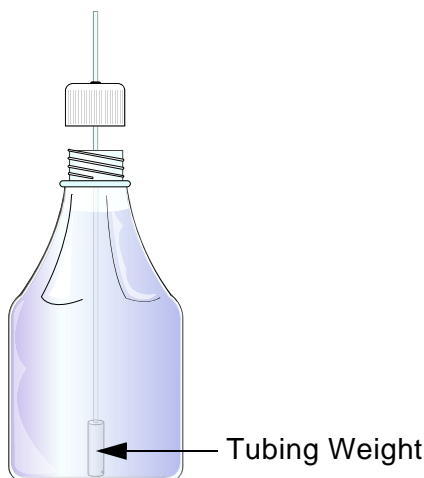

Figure B-4. Tubing Weight in Reservoir
8. Cap the bottle and adjust the length of tubing until the weight touches the bottom surface of the reservoir (see Figure B-4).